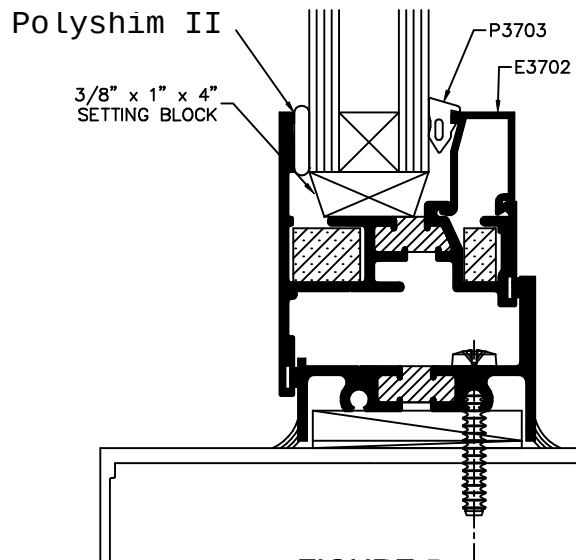

FIGURE 5
1. APPLY TREMCO BUTYL GLAZING TAPE CONTINUOUS TO SASH AS INDICATED IN FIGURES 5 AND 6. BACK UP JOINTS WITH 6" LONG TOE BEAD OF BUTYL SEALANT.
2. INSTALL $3/8" \times 1" \times 4"$ SETTING BLOCKS AT $1/4$ POINTS AS SHOWN IN FIGURES 5 AND 6.
- A. USE E3702 FOR $1"$ GLASS (SEE FIGURE 5).
- B. SWING BOTTOM OF WINDOW INTO PLACE AND SET ON SETTING BLOCK (SEE FIGURE 5).